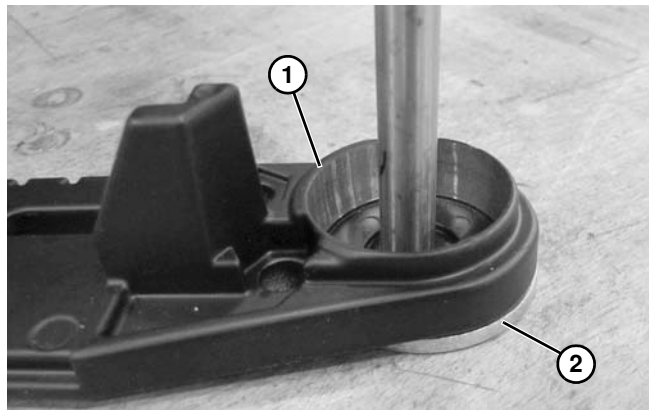

Figure 69
2. Set tail plate (**Figure 69, item 1**) flat side down over washer (**Figure 69, item 2**) or hole in workbench that has a minimum diameter of 16 mm.